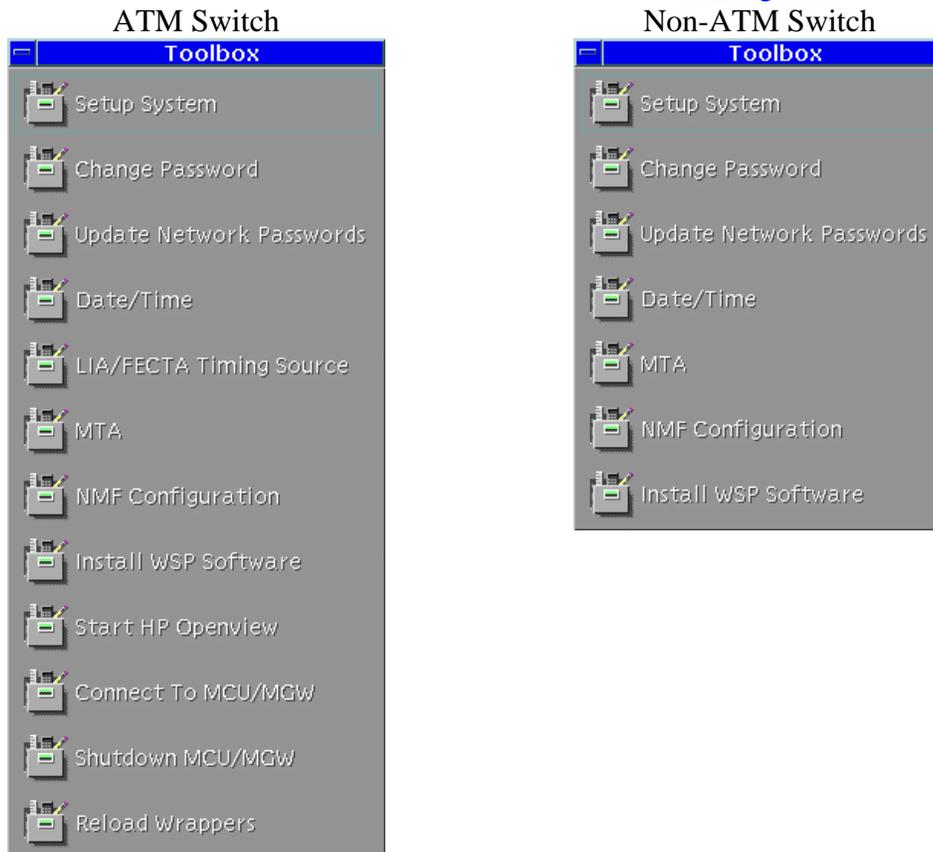

Figure 1 – Toolbox Submenu
1. From the CDE Tool Bar select the **Toolbox** submenu. See Figure 1.
17. From the CDE Tool Bar select **Toolbox** submenu. See Figure 1.
25. From the CDE Tool Bar select the **Toolbox** submenu. See Figure 1.
48. From the CDE Tool Bar select the **Toolbox** submenu. See Figure 1.